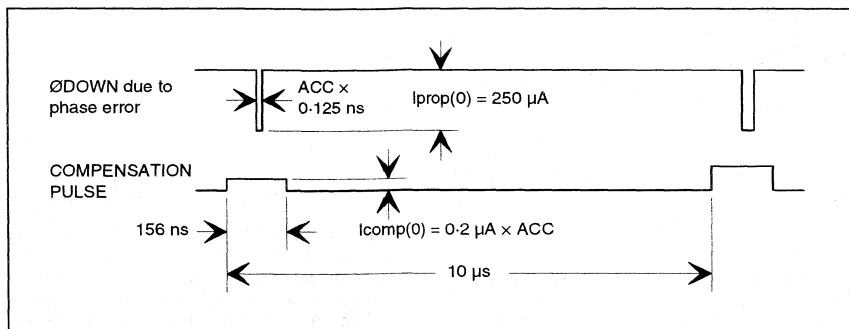

Fig. 28 Fractional-N Phase Error And Compensation Pulse
Typical timing waveforms for the phase error and its compensation are shown in figure 28 for a loop operating in  $1/8$  mode (hence MOD = 8), with a VCO at 1 GHz, and a comparison frequency of 100 kHz (hence  $N_{TOT} = 10,000$  and  $f_{COMP}$  period =  $10 \mu s$ ) so that each phase error can be found from equation (4) as: